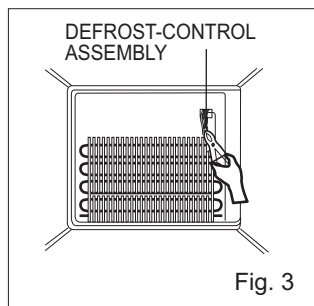

Fig. 3
2. Separate the connector with the Defrost Control assembly and replace the Defrost Control assembly after cutting the Tie Wrap. (Figure 3)